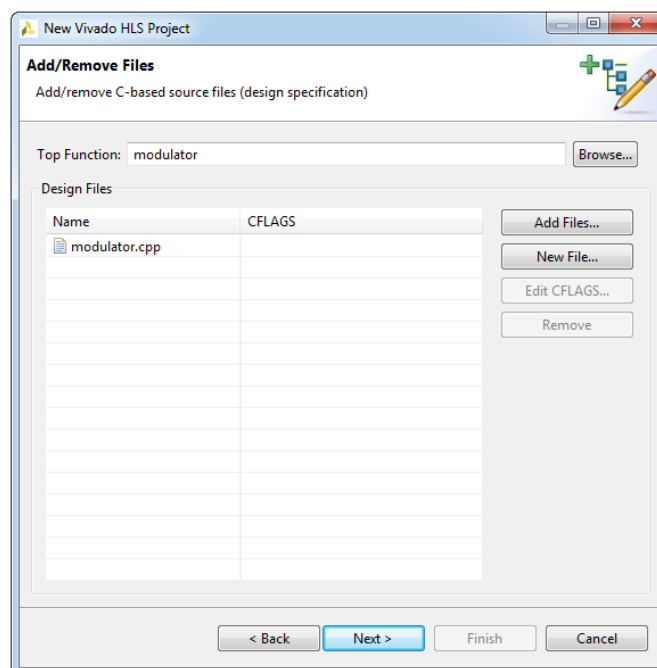

Figure 2.5: Save As dialog box
- After adding new **modulator.cpp** C++ file, it should appear as a part of the **Design Files** section, as it is shown on the Figure 2.5.